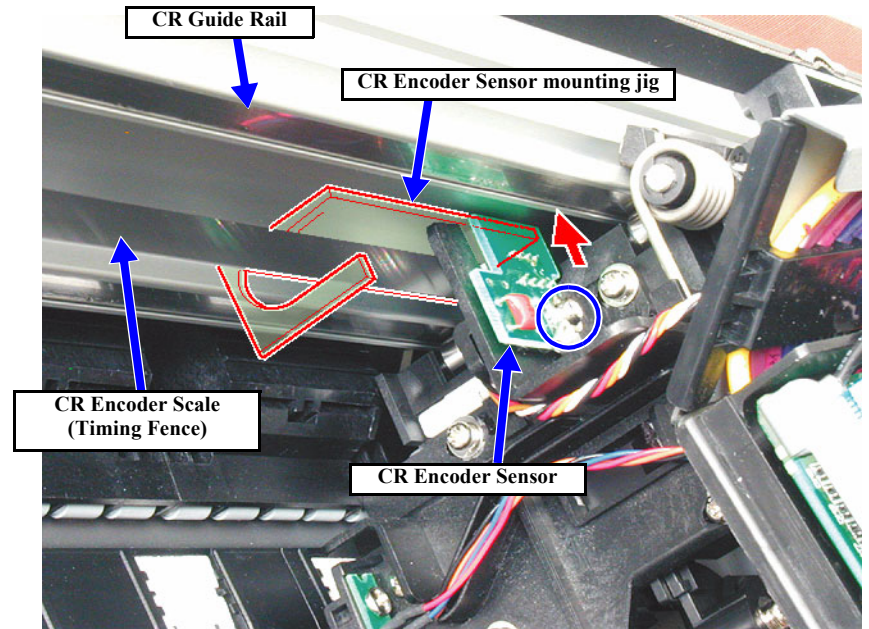

Figure 5-70. Adjusting the CR Encoder Sensor Mounting Position 2/2
4. Loosen the screw securing the CR Encoder Sensor Board, and set the CR ENC Sensor positioning jig between the CR Encoder Sensor and the CR Guide Rail. (See *Figure 5-70*)